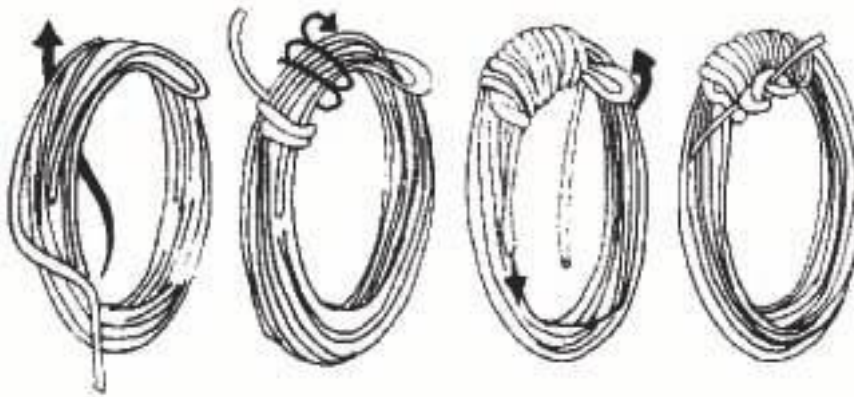

Figure 2-17. Mountain Coil
(1) Mountain Coil (Figure 2-17) least preferred because rope tends to tangle up during uncoiling.